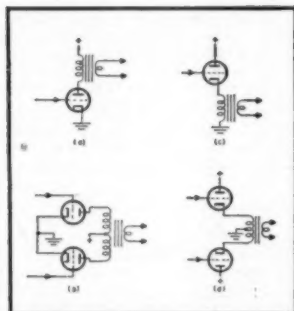

Fig. 1. Conventional single-ended and push-pull output stages.
To summarize, the loran system consists of three elements: (1) A series of land based loran transmitting stations; (2) receiving and time measuring equipment (loran receiving gear) accessible by the navigator on plane or ship; and (3) loran plotting charts. Figure 1 illustrates the basic principles of determining position by means of loran.
One of the first circuits employed as a power amplifier is that of Fig. 1(a), which is the plate-loaded, single-ended stage. The undistorted power output is comparatively low because class-A operation is required. The presence of d.c. flux in the output transformer is a disadvantage, as is the generation of even-harmonic distortion.
The push-pull circuit of Fig. 1(b) is an improvement, since the d.c. flux in the output transformer can be canceled. At the same time, class-AB or class-B operation becomes possible, as the tube characteristics are complementary. If symmetry has been attained, even-harmonic distortion will be very low.
These two circuits have been modified by the use of cathode loading, as shown in Figs. 1(c) and 1(d). Although the output impedance is decreased, no real advantage is gained that could not be obtained by employing inverse feed-